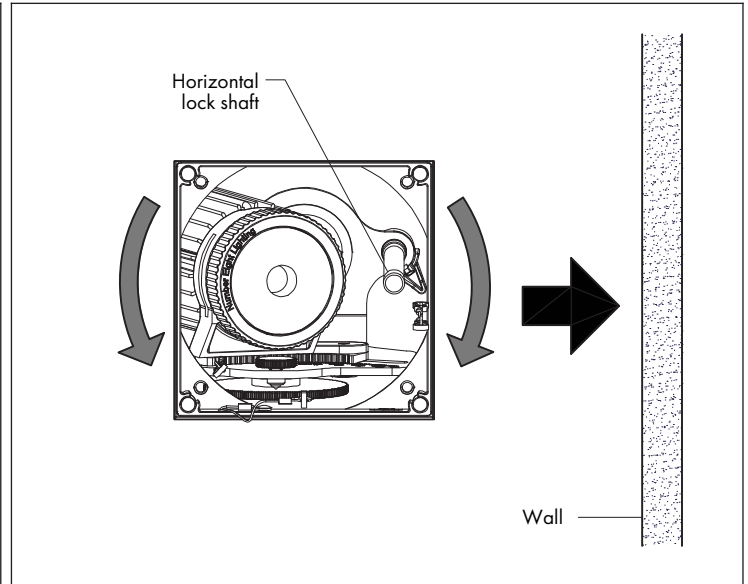

FIG 11.2 Adjust Horizontal position
STEP 2 Unlock & adjust horizontal position to aim light towards wall surface to be illuminated - **FIG 11.2**.